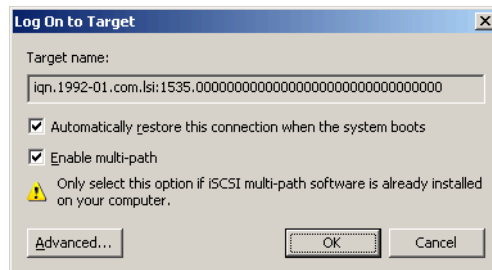

Figure 23-31 Log on to target
6. Back in the Log On to Target window (Figure 23-31), click **OK** to complete the logon.